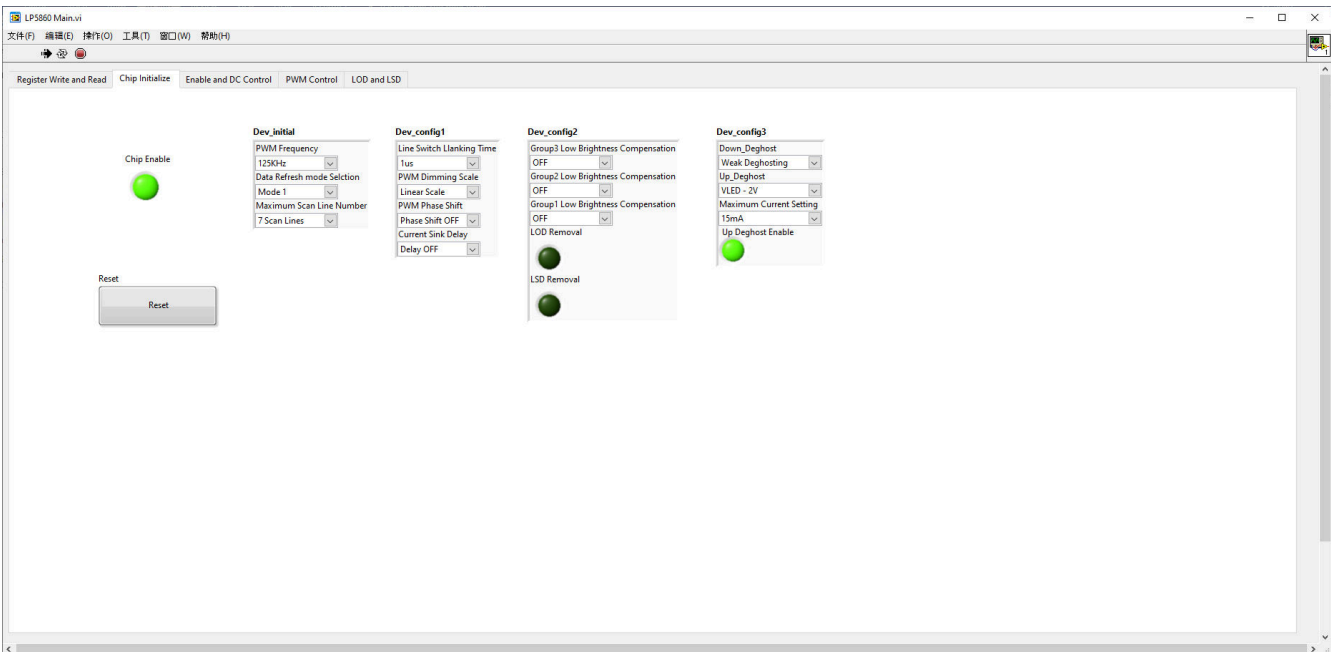

Figure 3-4. LP5867EVM GUI Chip Initialize
1. Select the second page tab, entitled *Chip Initialize* (see Figure 3-4).